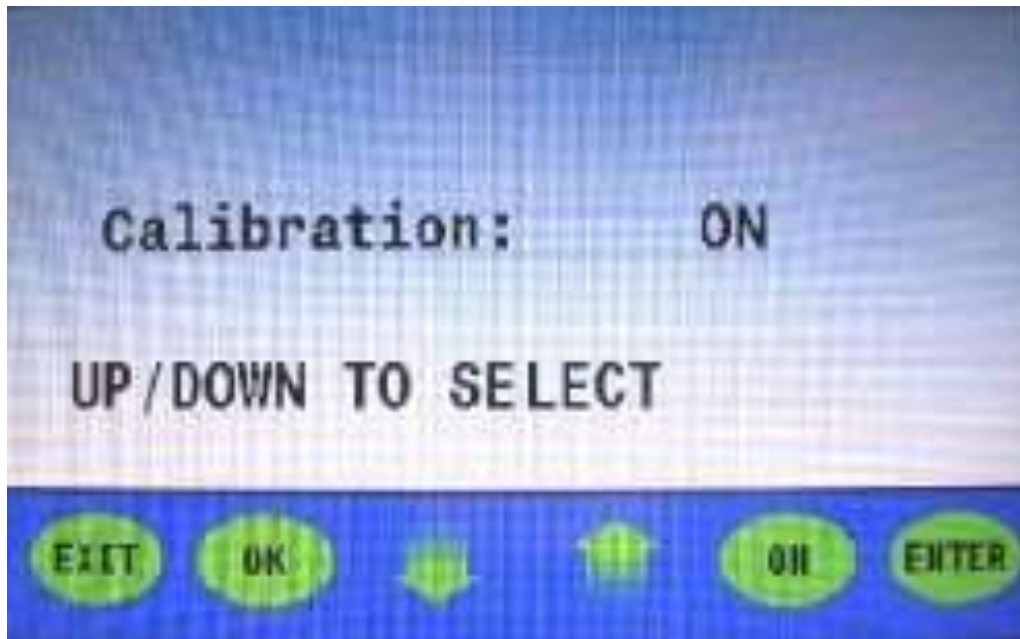

Figure 3
4. Scroll down to "Calibration." Next, press the Enter button. The display will read: "Calibration: ON" (figure 3).